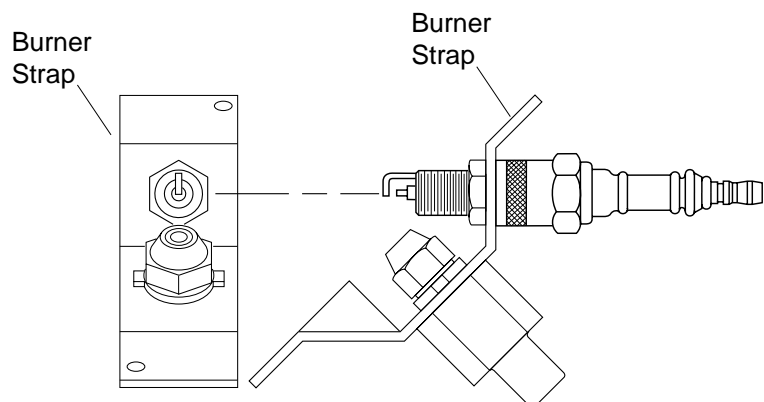

Figure 13 - Spark Plug Rotation, 8,8 kW (30,000 Btu/Hr) Model Only
10. Replace burner strap onto spark plug. Rotate burner strap to position spark plug electrodes (see Figure 13).